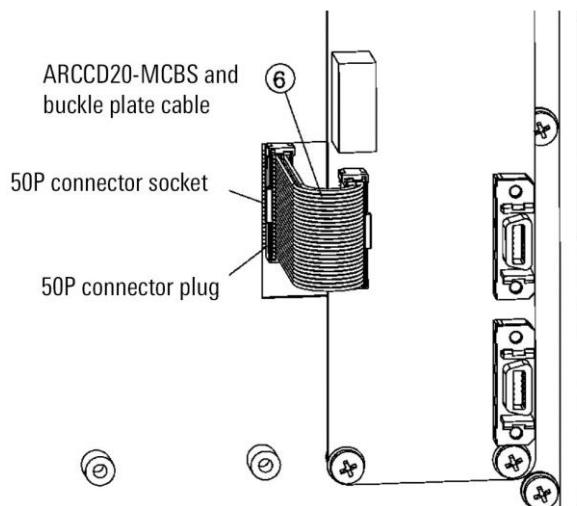

Figure 2-8 MCB and MCB-IEB connection
Step4. Connect the 50P connector plugs at both ends of the ⑥ ARCCD20-MCBS and buckle plate cables to the 50P connector sockets on the MCB and ③ MCB-IEB respectively, refer to Figure 2-8.